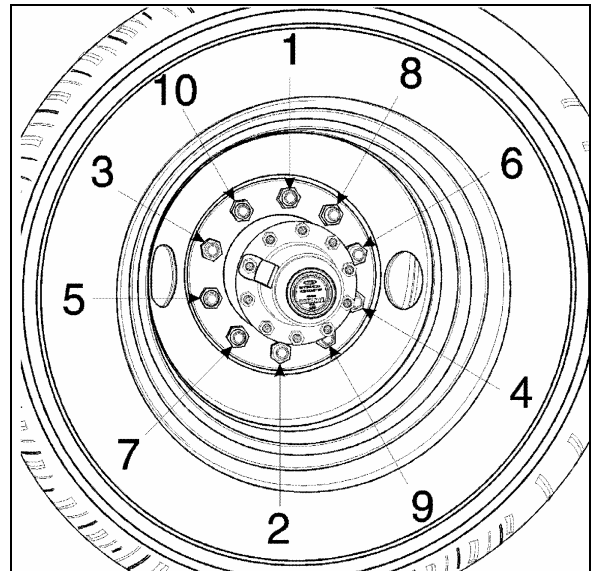
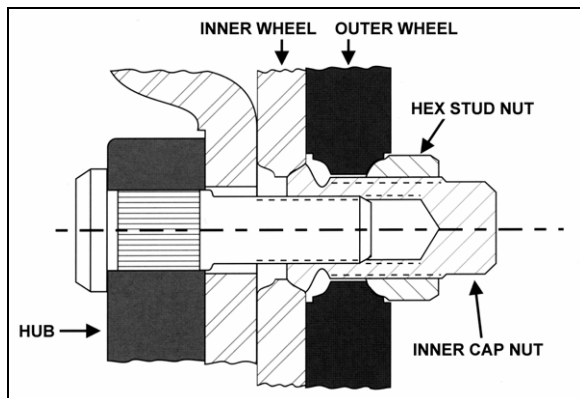

FIGURE 2: TIGHTENING SEQUENCE 13018
FIGURE 4: STUD-MOUNTED WHEELS
It is also important that wheel stud nuts be tightened alternately on opposite sides of the wheel. Refer to Figure 2 for the suggested tightening sequence.
Tighten stud nuts progressively as shown in Figure 2. The final tightening should be done with a torque wrench. Tighten stud nuts to 450 - 500 lbf-ft (610 - 680 Nm) for aluminum as well as steel wheels.
2. Screw in the hex stud nuts (refer to Figure 2 for sequence) so that wheel will position itself concentrically with hub. This is important, otherwise wheel may be eccentric with hub and will not run straight. In this initial step, slightly tighten the nuts to correctly position the wheel;
3. Tighten stud nuts progressively as shown in Figure 2. The final tightening should be done with a torque wrench. Tighten stud nuts to 450 - 500 lbf-ft (610 - 680 Nm) for aluminum as well as steel wheel.
2. Screw in the inner cap nuts (Fig. 4), so that wheel will position itself concentrically with hub. Refer to Figure 2 for sequence;
3. Tighten inner cap nuts progressively according to sequence shown in Figure 2. Final tightening should be done with a torque wrench. Tighten inner cap nuts to 450 - 500 lbf-ft (610 - 680 Nm) for aluminum as well as steel wheel.
With inner wheel installed, tighten the hex stud nuts (Fig. 4) using the single wheel installation procedure described previously.
1. Loosen a hex stud nut three turns (Fig. 4);
Repeat for each of the 10 "hex stud nut - inner cap nut assemblies" according to the tightening sequence in Figure 2.
Using a calibrated torque wrench, tighten wheel nuts to 450 - 500 lbf-ft (610 - 680 Nm) of torque. Do not use power tools or long bars for tightening. Tighten wheel nuts alternately as shown in figure 2.